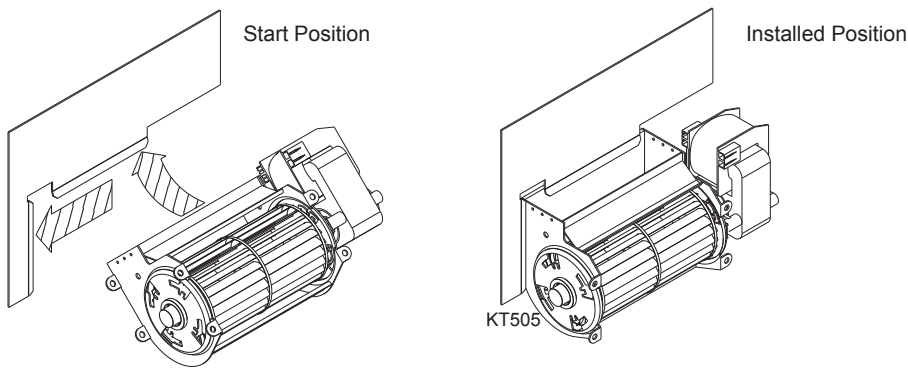

Figure 5
9. Turn blowers with discharge vent facing up. Slip discharge vent flange under the flange bracket flush against the sidewall or back. Slide blower side tabs over into side flange. (Fig. 5) The blower is now locked in place.